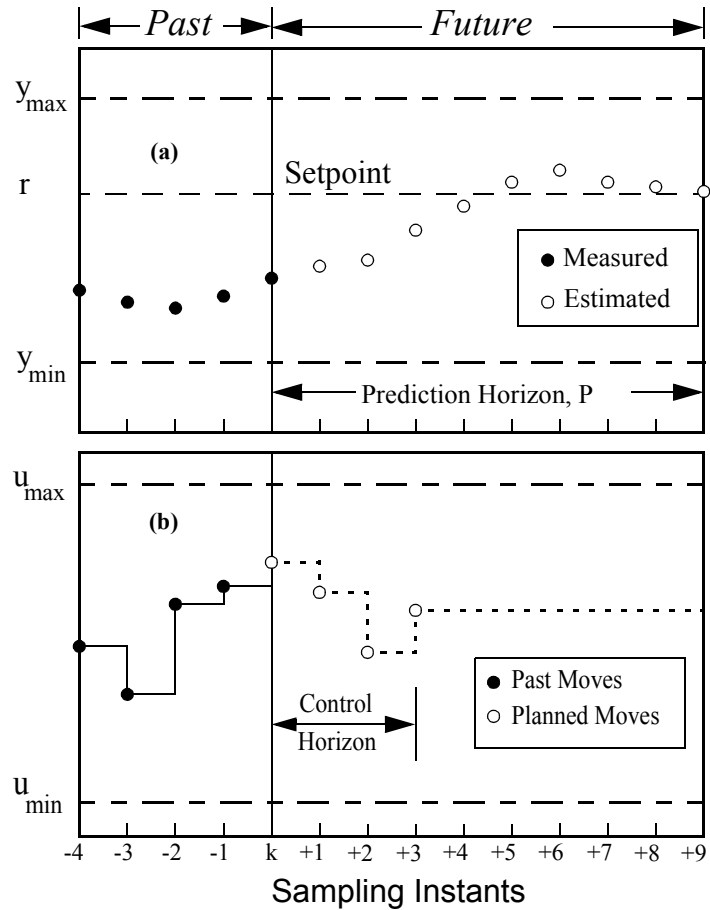

Figure 1-2: Controller State at the k th Sampling Instant
Figure 1-2 shows the state of a hypothetical SISO MPC system that has been operating for many sampling instants. Integer k represents the current instant. The latest measured output, y_k , and previous measurements, y_{k-1}, y_{k-2}, \dots , are known and are the filled circles in Figure 1-2(a). If there is a measured disturbance, its current and past values would be known (not shown).
Figure 1-2 (b) shows the controller's previous *moves*, u_{k-4}, \dots, u_{k-1} , as filled circles. As is usually the case, a *zero-order hold* receives each move from the controller and holds it until the next sampling instant, causing the step-wise variations shown in Figure 1-2 (b).
- 2 *Optimization*. Values of setpoints, measured disturbances, and constraints are specified over a finite *horizon* of future sampling instants, $k+1, k+2, \dots, k+P$, where P (a finite integer ≥ 1) is the *prediction horizon* – see Figure 1-2 (a). The controller computes M moves $u_k, u_{k+1}, \dots, u_{k+M-1}$, where M ($\geq 1, \leq P$) is the *control horizon* – see Figure 1-2 (b). In the hypothetical example shown in the figure, $P = 9$ and $M = 4$. The moves are the solution of a *constrained* optimization problem. For details of the formulation, see Chapter 2, "Optimization Problem".
In the example, the optimal moves are the four open circles in Figure 1-2 (b), and the controller predicts that the resulting output values will be the nine open circles in Figure 1-2 (a). Notice that both are within their *constraints*, $u_{min} \leq u_{k+j} \leq u_{max}$ and $y_{min} \leq y_{k+i} \leq y_{max}$.
In Figure 1-2 (b), $M = 4$ and $P = 9$, and the controller is optimizing the first M moves of the prediction horizon, after which the manipulated variable remains constant for the remaining $P - M = 5$ sampling instants.